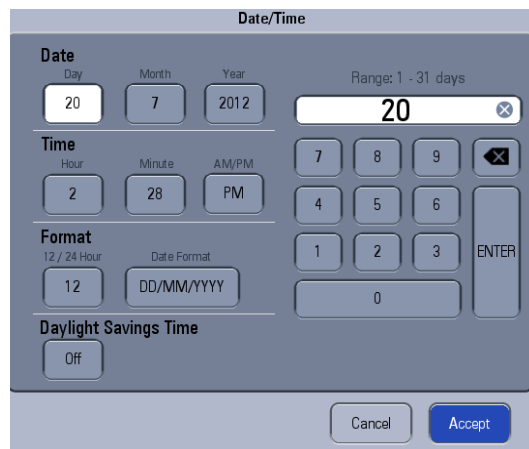

FIGURE 3-11 Date and Time Menu
1. Select the Date and Time icon. The Date/Time dialog is displayed (see FIGURE 3-11).
NOTE: If the **Daylight Savings Time On/Off** button in the **Date/Time** dialog (see FIGURE 3-11) is disabled and cannot be selected, it is because the **Daylight Savings** setting has been set to **Auto** in the **System settings** (see TABLE 3-10 on page 3-42).